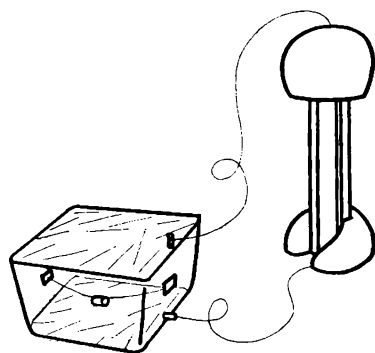

Fig. 10
- (iii) Make a small cylindrical tube of aluminium foil from a cigarette packet (about 1 cm long and 0.5 cm in diameter) and suspend it from a fine nylon thread stretched across the box as shown in Fig. 10. The length of the thread should